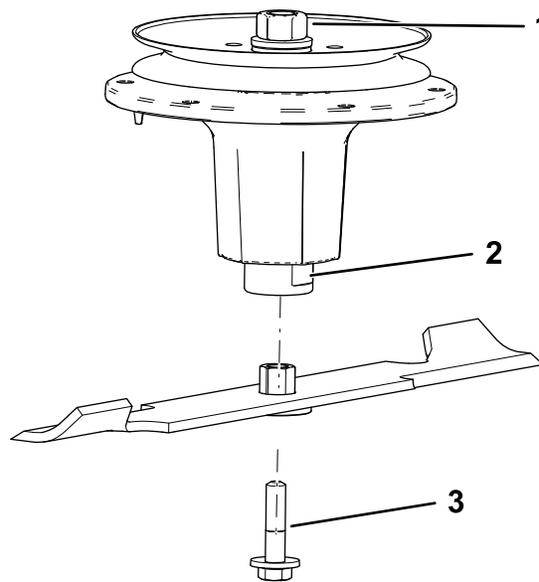

Figure 84
2. Install the bushing/blade assembly into the spindle shaft (Figure 84).